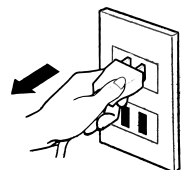

Figure 8
6. When cooking is complete, tap the POWER button to shut down and remove the Power cord (6) from the electrical outlet (See Figure 8).